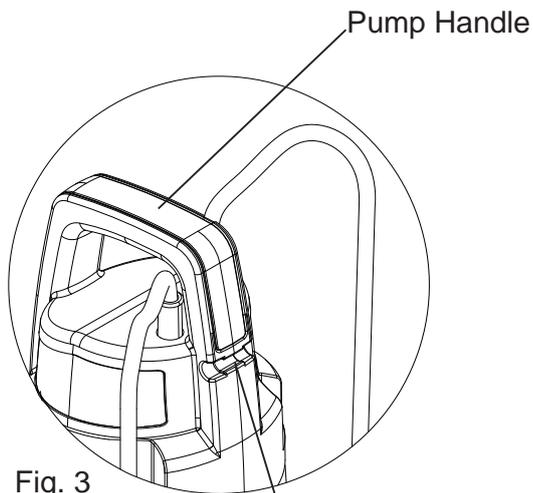

Fig. 3
- 2.19 **Float Switch Operation:** Selected models which include the suffix 'A' after the model number, are fitted with float switches for automatic operation. The following guide will help you get the most out of your pump. The pump must never run dry, needing a minimum water depth of 90 mm on the Supersub model and 120 mm on the Supervort models, at all times. Adjustment of the float switch is achieved by lengthening or shortening the cable through the moulded cable retention slot, which is located in the pump handle (Figs 3 and 4).